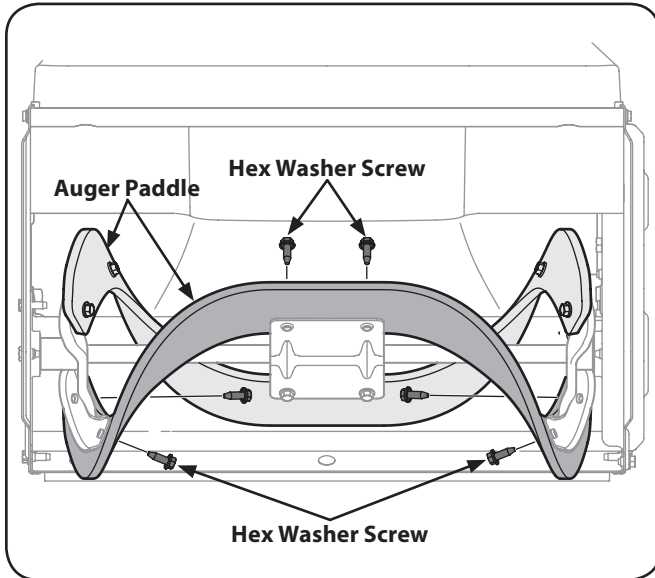

Figure 7-4
To change the rubber paddles, proceed as follows and refer to Fig. 7-4:
3. Remove the existing rubber paddles by unthreading the hex washer screws which secure them to the auger. See Fig. 7-4.